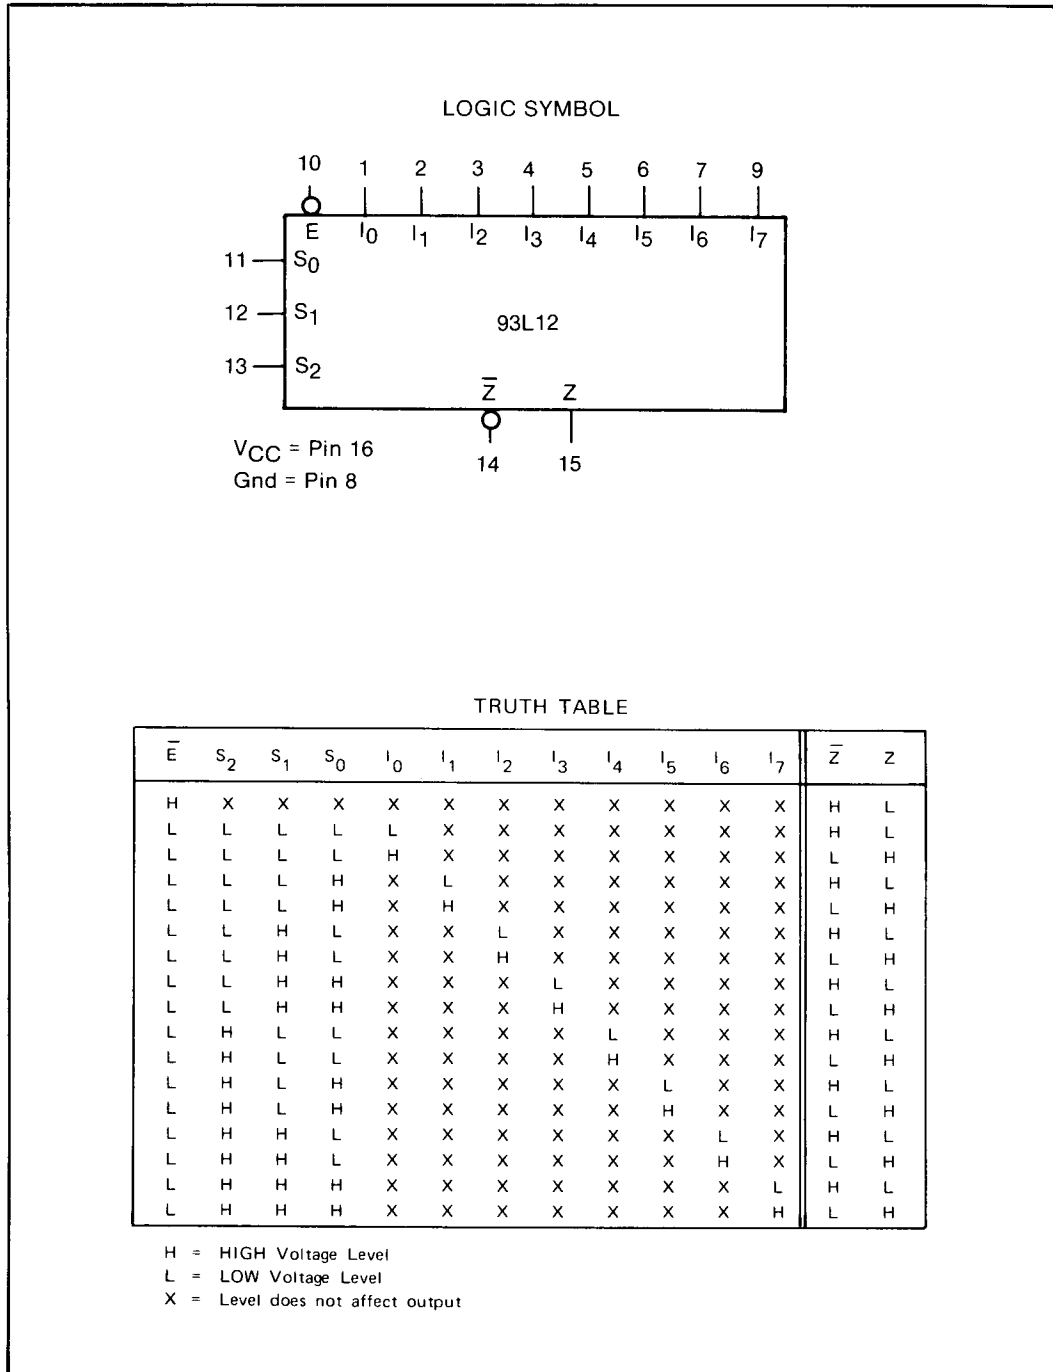

Figure 4-7. Eight Input Multiplexer A5U8
4-41. The eight input multiplexer, shown in *Figure 4-7*, provides the ability to select one bit of data from up to eight sources. The circuit is a logical implementation of a single-pole, eight-position switch with the switch position controlled by the state of three select inputs, S_0 , S_1 , and S_2 . Both assertion and negation outputs are provided. The enable input (E) is active low.